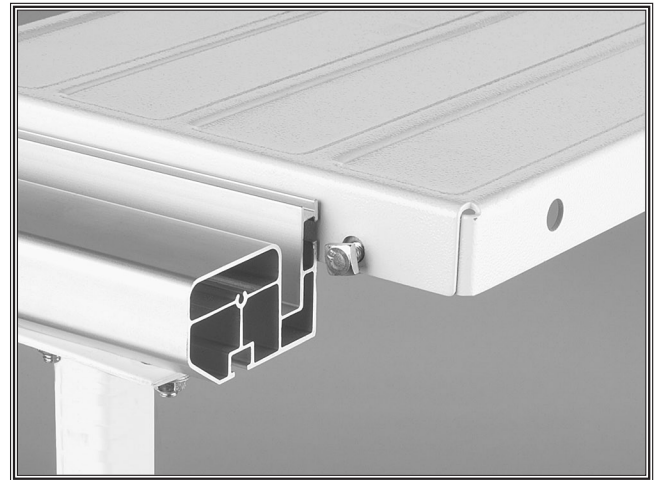

Figure 11. T-bolt and rail T-slot.
2. Insert the T-bolt heads into the rail T-slots as shown in Figure 11.